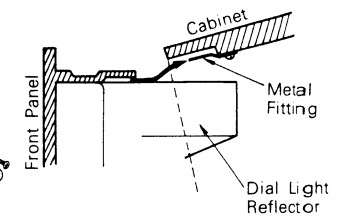

Fig. 9
- When the cabinet is installed, insert the metal fitting of cabinet (as shown in fig. 9) into the space between the front panel and light reflector.